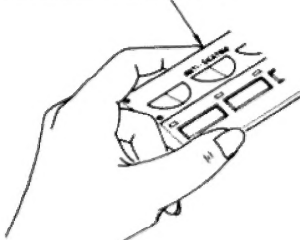

Fig. 9
4. Adjust the TRACKING FORCE, ANTI-SKATING and Q DAMPING scales to the tracking force of the cartridge to be used. (See Fig. 9, 10.)